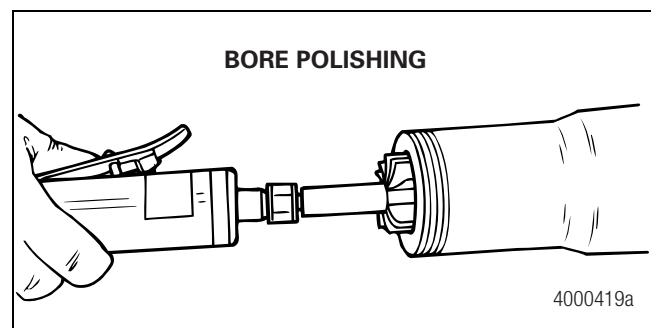

Figure 2.10
7. Polish the spindle bore to remove all adhesive residue left from the old spindle plug and any metal burrs or sharp edges from the spindle bore surface. Figure 2.10.